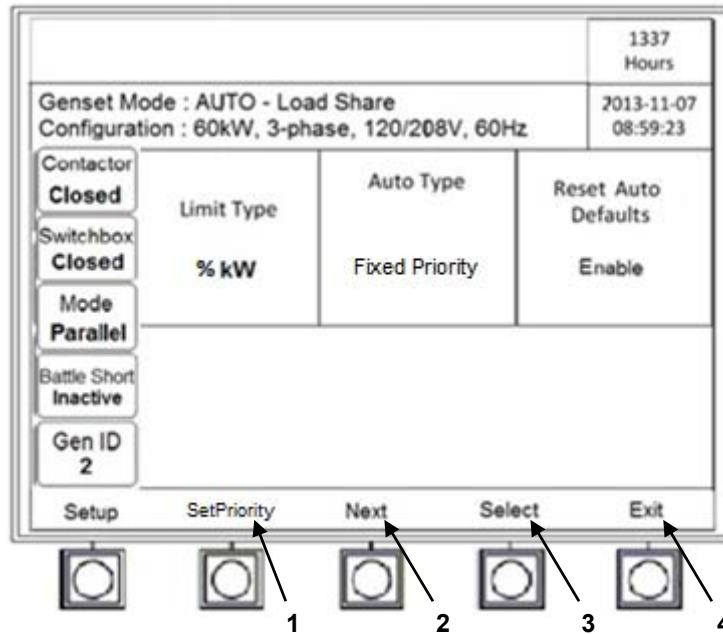
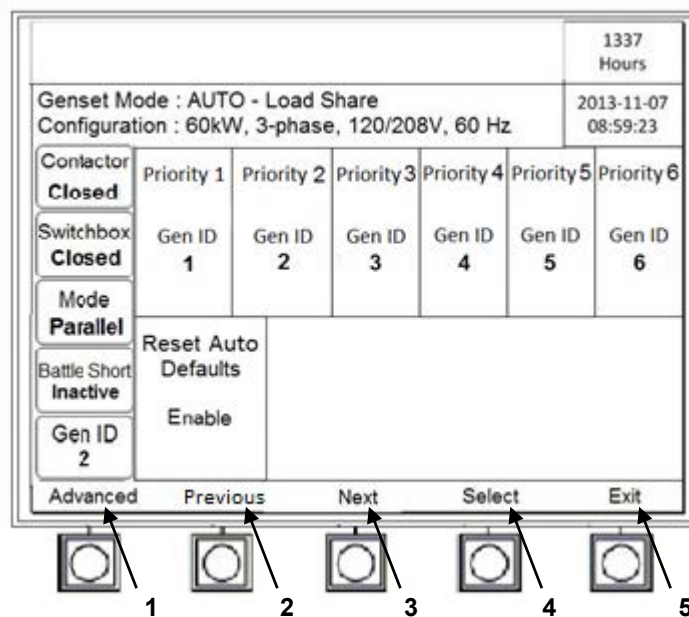

Figure 4-9. Advanced Setup Screen [Fixed Priority]
Figure 4-11. Fixed Priority Screen
- m. Verify settings displayed on [Advanced Setup] screen (figure 4-9). If no adjustments are desired, proceed to step p.
- n. Press [Next] (figure 4-9, item 2) to highlight areas for selection.
- o. Once desired area is highlighted, press [Select] (figure 4-9, item 3).
- u. Press [Set Priority] (figure 4-9, item 1) to access [Fixed Priority] screen (figure 4-11).
- v. If run hour priority is desired, press [Advanced] (figure 4-11, item 1) and proceed to step n.
- w. Verify settings on [Fixed Priority] screen (figure 4-11). If no adjustments are desired, proceed to step dd.
- x. Press [Previous] (figure 4-11, item 2) or [Next] (figure 4-11, item 3) to highlight areas for selection.
- y. Once desired area is highlighted, press [Select] (figure 4-11, item 4).